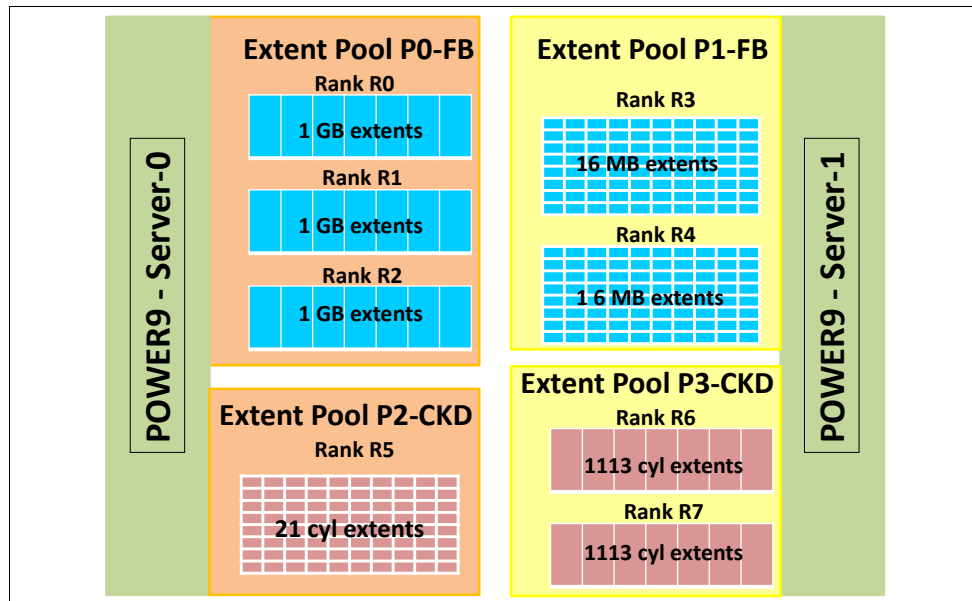

Figure 4-3 Extent pools
- ▶ The capacity of the array is subdivided into partitions, which are called *extents*. The extent size depends on the *extent type*, whether FB or CKD. The extents are the building blocks of the logical volumes. An extent is striped across all drives in an array, and it is represented by the small squares in Figure 4-3 on page 114.
Figure 4-3 shows an example of a mixed environment that features CKD and FB extent pools.